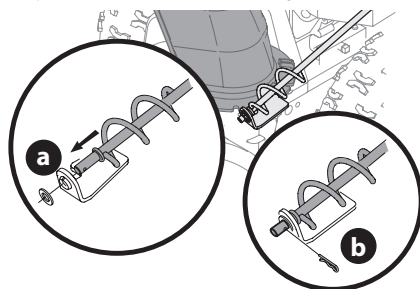

Figure 11
3. Remove plastic cap (if present), flat washer (a) and hairpin clip (b) from end of chute control rod (Figure 11).